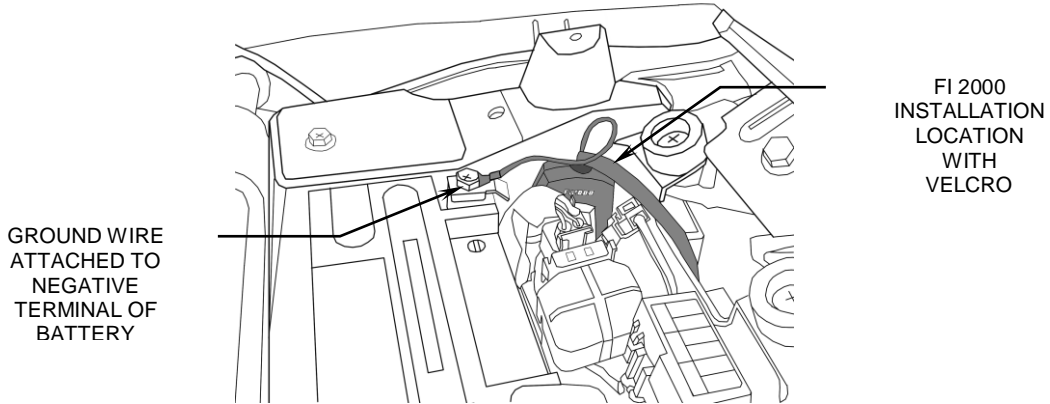

FIGURE 1: Fi2000 ECU AND HARNESS INSTALLATION LOCATION
2. Place the Fi2000 control module and harness next to the battery. Feed the Fi2000 wire harness (except the ground wire), forward through the notch in the front of the battery box, see Figure 1. Route the wires forward to the left side of the motorcycle and next to the wires at the ECU, which are now exposed from removing the left side plastic panel.
4. Velcro the Fi2000 module as shown in Figure 1.
6. Remove the door from the Fi2000 module to expose the LED's. Verify the wire connections by, (1), turning on the ignition while watching the 3 LED's. They will all light up and remain on until the engine is started. This is correct. If there are no lights visible, make sure the side stand is up, bike is in neutral, clutch is in and handlebar engine switch is set to run. If there are still no lights visible, re-check that all connectors are fully engaged and the ground wire is connected correctly. (2), After achieving a steady light from all three LED's, start the motorcycle; the green light should now be the only LED on. If all three LED's are still on after start up, verify the injector connectors are correctly attached. Reattach the access door when finished and install remaining components.